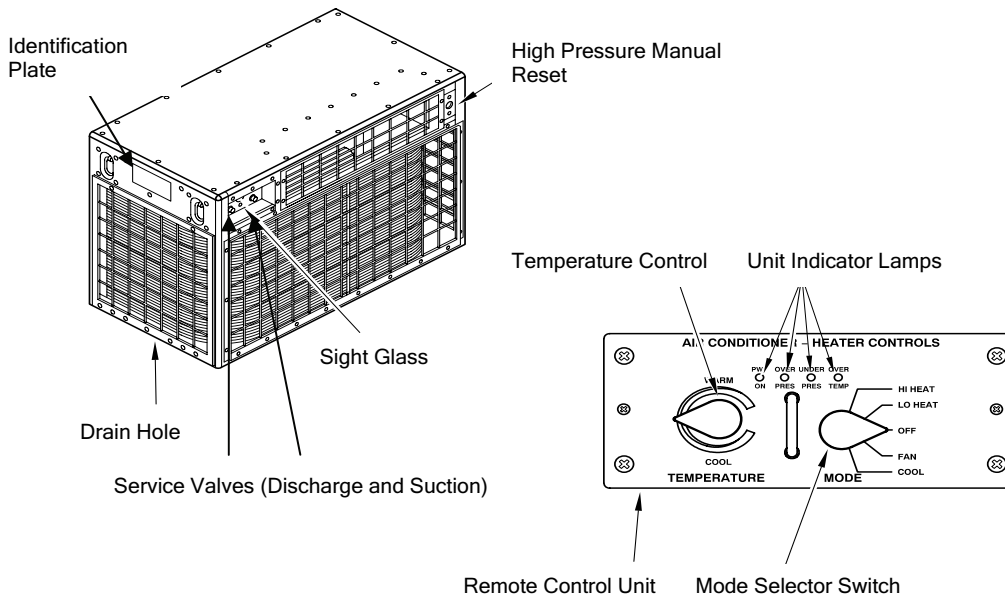

Figure 2. LOCATION OF MAJOR COMPONENTS (Exterior of Condenser and Controls)
14. REMOTE CONTROL UNIT (**Figure 2**). Contains manual control switches/indicators for IECU operation.